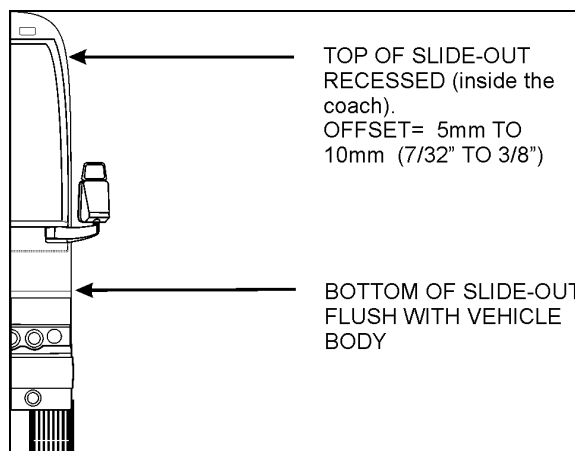

FIGURE 23: TILT ADJUSTMENT
5. Using levelling screw 3, adjust the tilt in order to have the top of the slide-out recessed between 5mm and 10mm ( $7/32''$  and  $3/8''$ ) (see FIGURE 23).